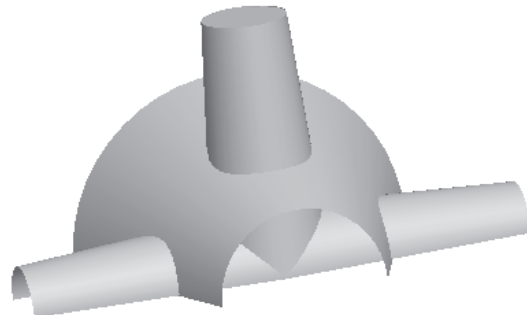

Figure 14-78 Model after creating the fourth blend surface
9. Select the **TOP** datum plane. Choose **OK** from the **SURFACE** dialog box. The blend surface is extruded up to the selected datum plane, as shown in Figure 14-78.